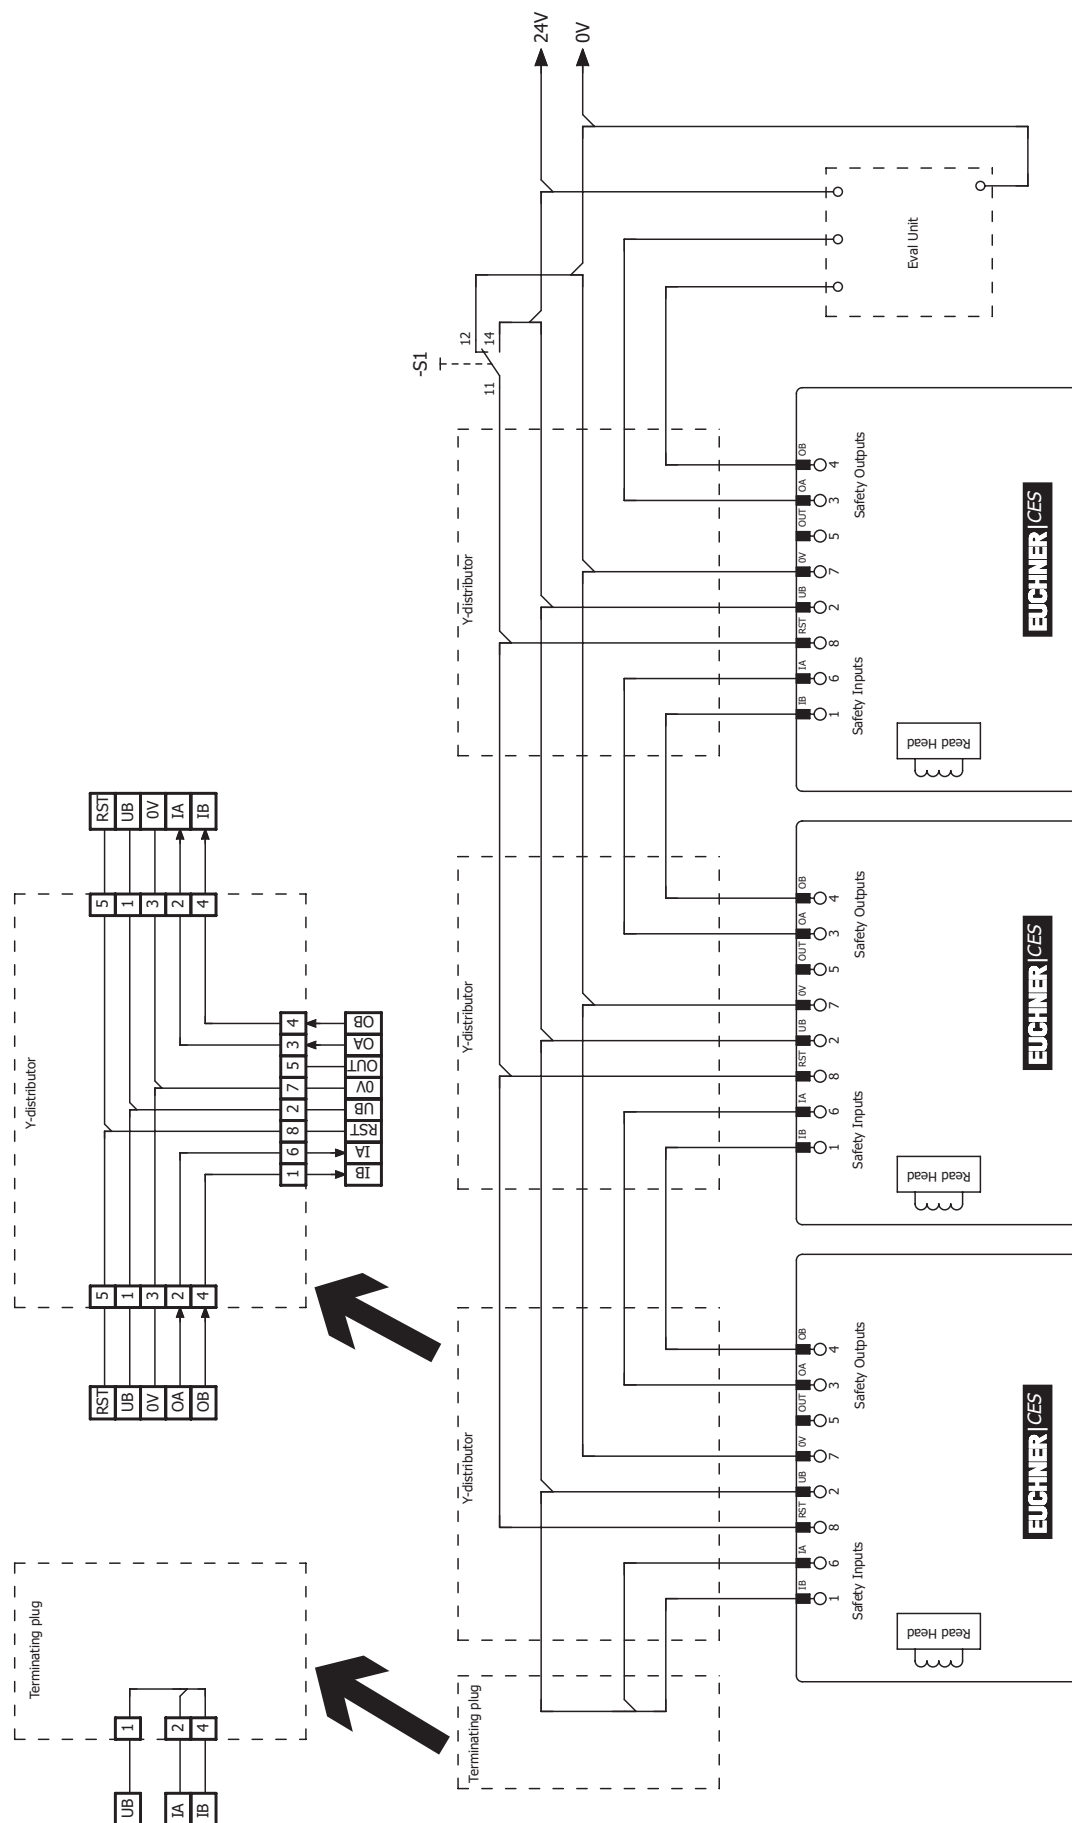

Figure 4: Connection example for series connection with reset and changeover switch
- › A common signal must be used for all switches in the chain. This can be a changeover switch or the output of a control system. A pushbutton is not suitable because the reset must always be connected to GND during operation (see switch S1 in *Figure 4 on page 18*).
Input RST must be connected as shown in *Figure 4 on page 18* to permit this.